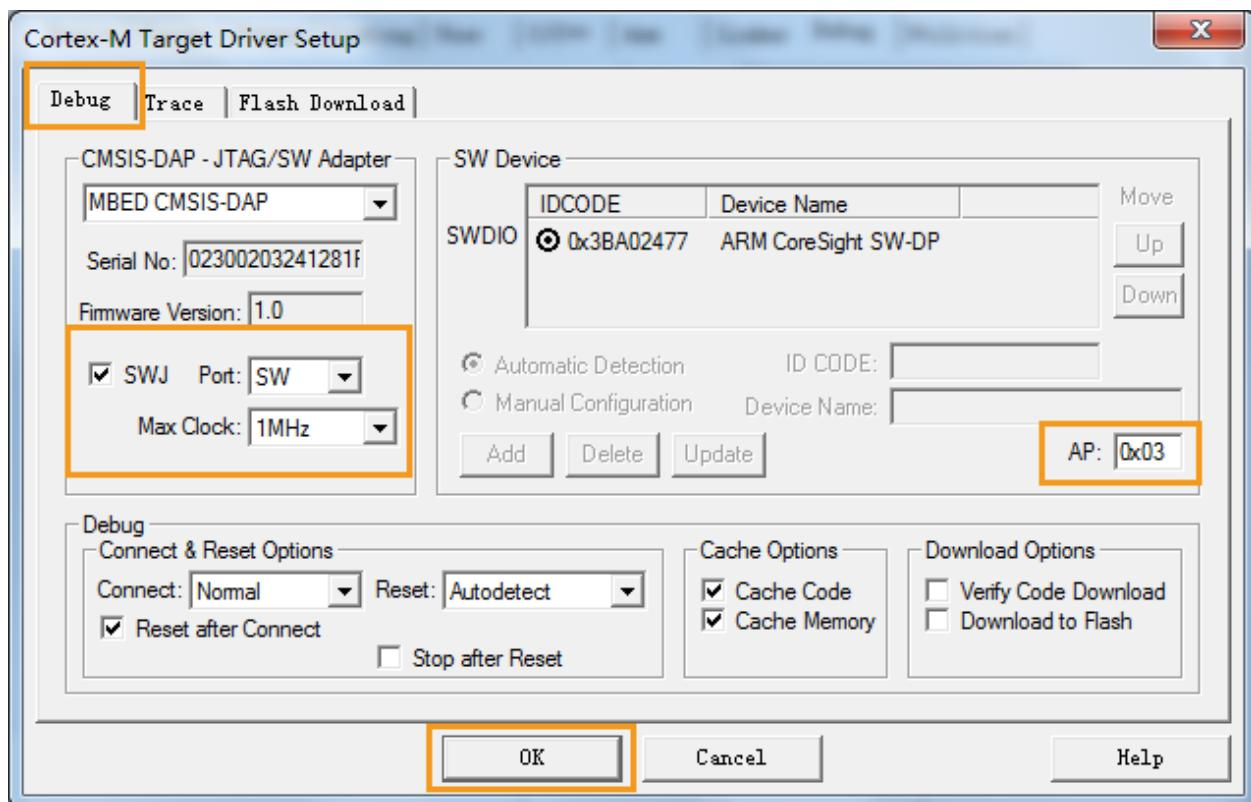

Figure 61. Setting the debug parameters on LinkIt 2523 HDK
8) If debugging on LinkIt 2523 HDK, set **AP** as 0x03, as shown in Figure 61.